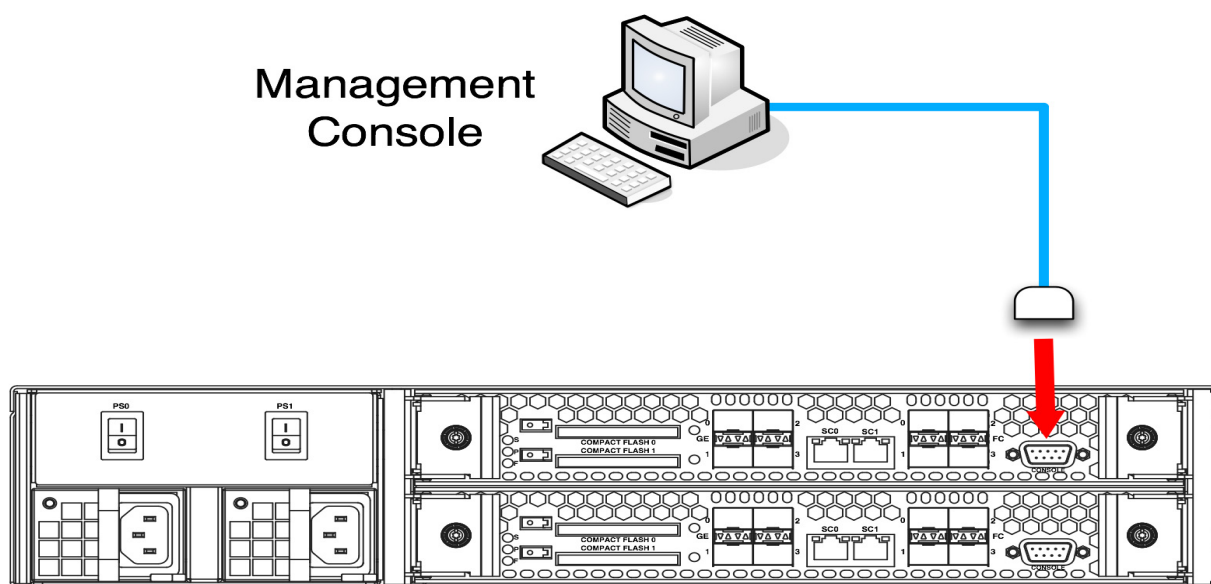

Figure 5-1 Connecting to the Management Console
- Step 2:* Plug the other end of the RS-232 management cable into the Console port on the rear of the ONStor Cougar 6000 Series NAS Gateway. See Figure 5-1 on page 5-3.